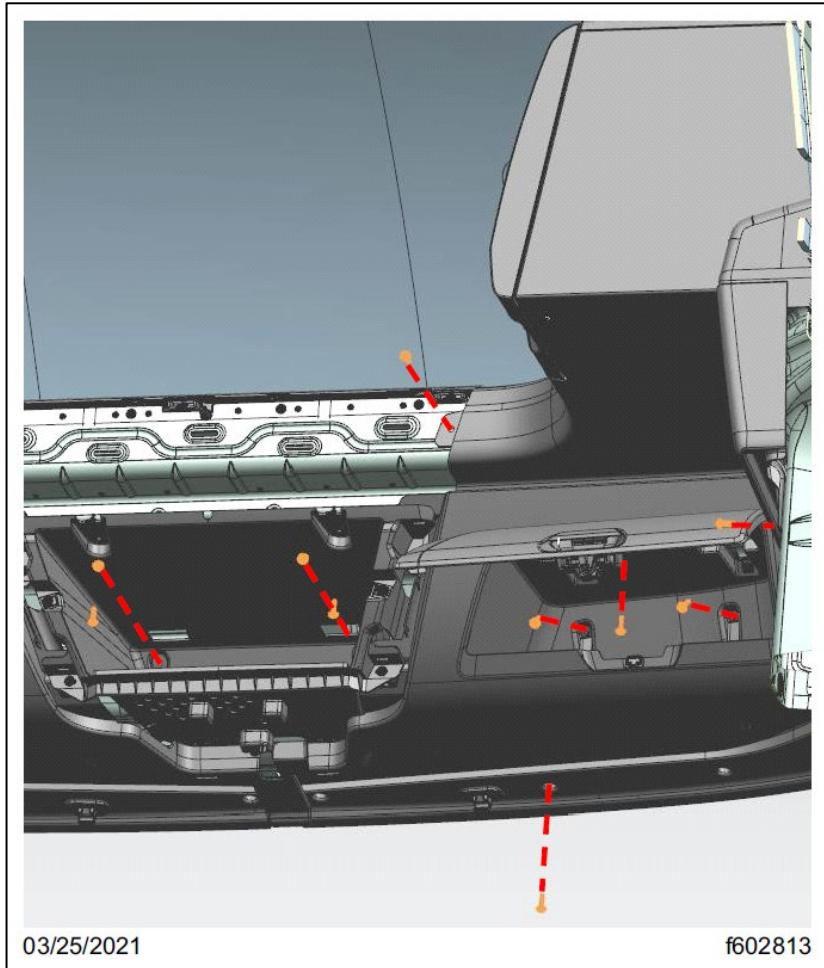

Fig. 48, Fasteners That Attach the Center Storage Bin and the RH Side Overhead Storage Assembly to the Cab Roof
8.5. Remove the eight fasteners that attach the center storage bin and the RH side overhead storage assembly to the cab roof. See Fig. 48.